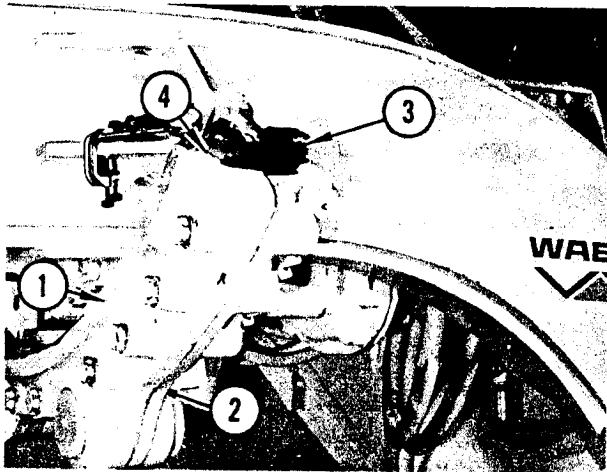

FIGURE 33. RACK ADJUSTMENT
Refer to Figure 33. Pry rack (1) away from pinion (2) and against rail (3). Measure the clearance between bevel of rail and